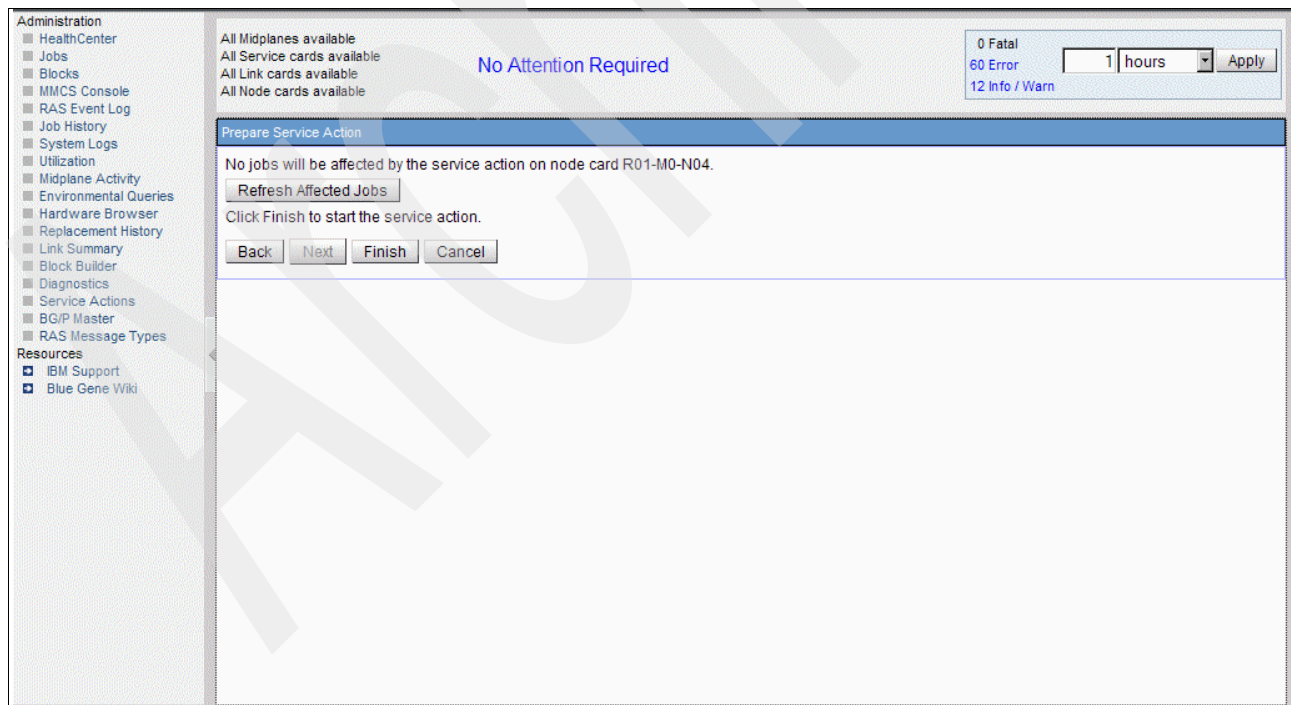

Figure 11-6 Check for conflicts
3. Messages in the drop-down menu and within the window also alert you to possible conflicts with existing Service Actions. When you are satisfied with your choices, you can click **Finish** to start the Service Action (Figure 11-6).